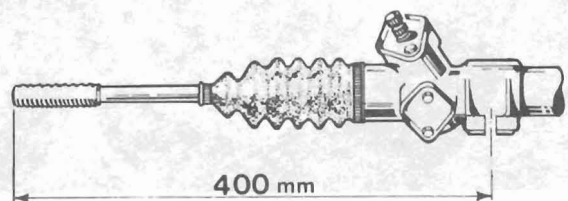

Fig. 10.18 Steering rack centralising diagram (Sec 17)
- 33 Centralise the rack ready for fitting to the car by referring to Fig. 10.18.